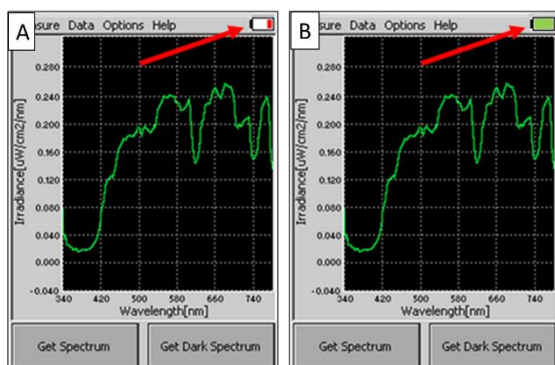

Fig. 6 Battery status indicator showing battery status: discharged A, charged B
5. When switched OFF large charging icon appears on the device display. When ON the battery icon on the display (Fig. 6) indicates the actual charge status.